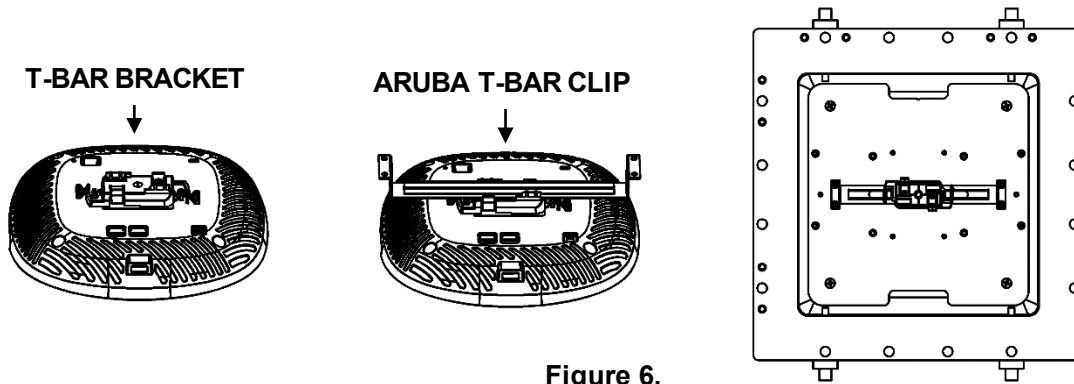

Figure 6.
Older Aruba Access Points / T-Bar Mountable Access Points- Previous generations of Aruba access points use Aruba supplied snap-on T-bar clip. Attach snap-on T-bar clip to the AP and then clip to the T-bar bracket included with the enclosure. Mount the T-bar to the backplate with the included QTY (4) screws. Slide the AP along the T-bar for access to the screw holes. See Figure 6.